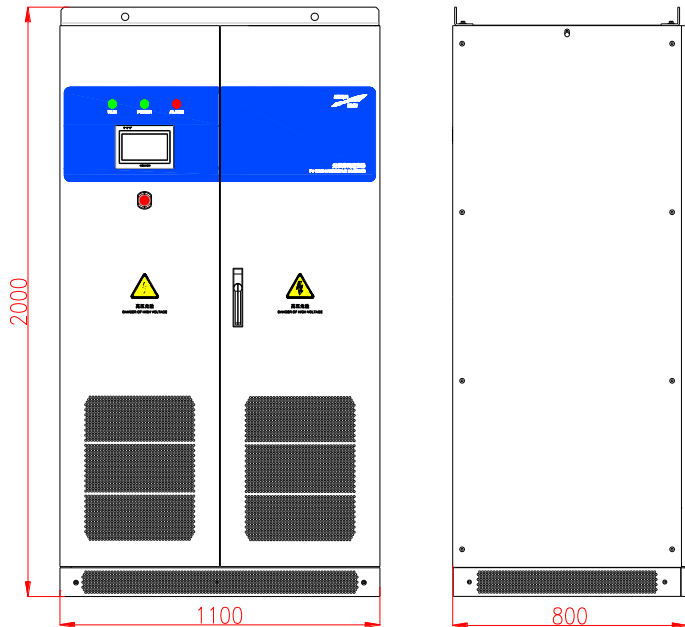

Figure3-6 The external size of the inverter
- Step 1 Select and determine the installation position according to the inverter size (as shown in Figure3-6) and installation clearance requirements (see 3.2.3 *Installation Clearance*).